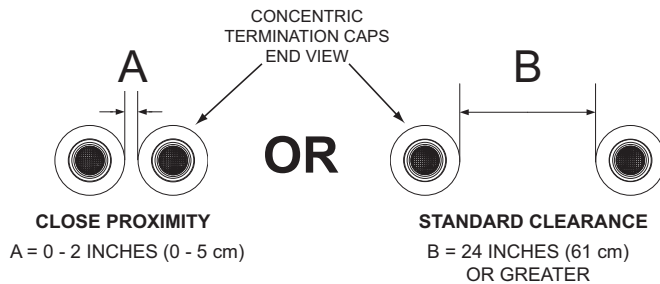
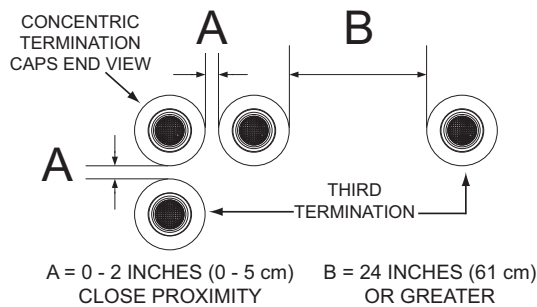

Figure 31. Two Concentric Terminations
Figure 32. Three Concentric Terminations
When installing multiple concentric terminations through a roof or through a sidewall the clearances shown in **Figure 31** must be maintained.
1. The clearance between multiple termination caps must be zero inches (touching) to a maximum of two inches (5 cm), dimension A - **Figure 31**, when installing concentric terminations in close proximity. See **Figure 36** (page 32).
2. The clearance between multiple termination caps must be increased to a minimum of 24 inches (61 cm), dimension B - **Figure 31**, when installation in close proximity (above) is not possible. This is the standard clearance.
3. When installing three concentric terminations through a roof or through a sidewall the third termination may be installed in close proximity as indicated by dimension A in **Figure 32**.
4. If close proximity installation of the third termination is not possible the third termination may be installed as indicated by dimension B in **Figure 32**.
Two concentric terminations may be installed in close proximity as shown in *Figure 36* or with standard clearances when this arrangement is not possible. See *Figure 31* (page 31) for detailed information on clearances. See *Figure 32* (page 31) when installing three concentric terminations.